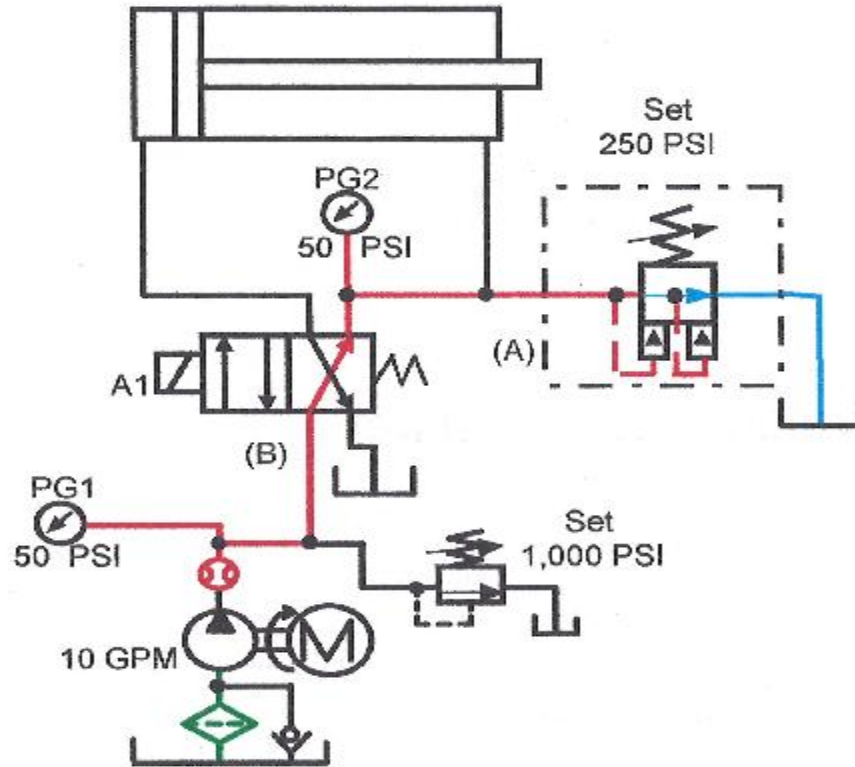
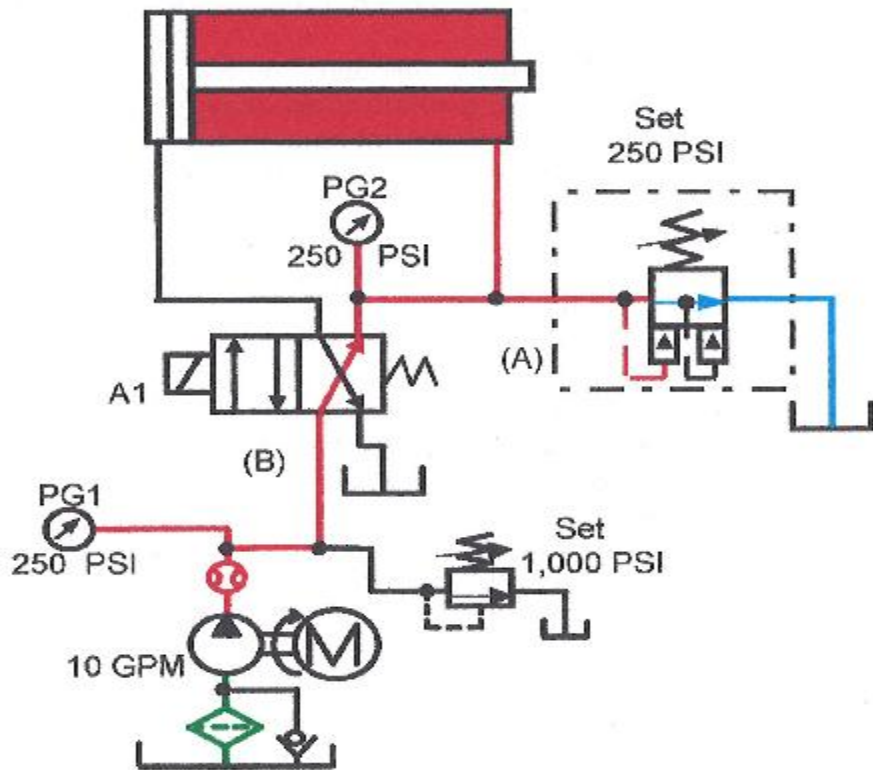

Figure 20-20. Pump-unloading circuit with kick-down sequence valve
Figure 20-23. Pump-unloading circuit with kick-down sequence valve
Another use for a kick-down sequence is unloading a pump after the circuit reaches maximum pressure. A kick-down sequence valve keeps unloading the pump until pressure drop across it falls below 50 psi. (See further explanation in conjunction with Figures 20-23.)
Figures 20-20 through 20-23 show a kick-down sequence valve automatically unloading a pump at the end of a cycle. The kick-down sequence valve and a single-solenoid directional valve can replace an open- or tandem- center, 3-position valve unloading circuit. This circuit simplifies the electrical controls because it only uses one solenoid.
A punch cylinder application, using a single-solenoid, two-position, spring-return valve and a fixed-displacement pump could operate this way with little heat generation. Figure 20-20 shows the circuit at rest. The pump, unloading through kick-down sequence valve (A) at about 50 psi, is ready for a cycle.
When the retracting cylinder stops, Figure 20-23, pressure builds in its rod end. When pressure reaches the setting of kick-down sequence valve (A), the valve opens and unloads the pump to tank at approximately 50 psi. The circuit has returned to the conditions of Figure 20-20.
Some designers use a relief valve with a pressure-compensated pump to reduce pressure spikes as the pump rapidly goes from full flow to no flow. Figure 1-16 in Chapter 1 shows and explains a circuit using a pressure-compensated pump and a relief valve. Figures 1-17 to 1-19 show another circuit using an accumulator to protect the pump. The accumulator circuit almost eliminates pressure spikes — plus it gives faster actuator response at the start of a cycle. However, there are pressure-compensated pump circuits that need overpressure protection that an accumulator may not be capable of providing alone. The schematic diagrams in Figures 20-20 through 20-24 show a circuit with a cylinder opposed by a greater force than its pressure capabilities. When an outside force starts pushing back against the cylinder, pressure in its cap